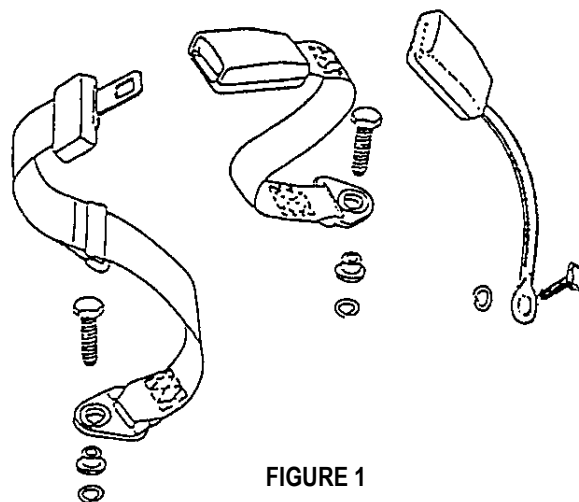

FIGURE 1
1. Assemble webbing buckle or stalk assembly as shown in figure 1.
2. Assemble tongue side as shown in figure 1.